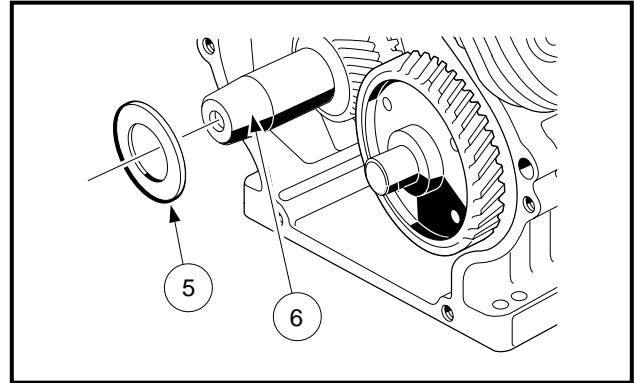

Figure 13-99 Install Shim On Crankshaft
5. Install the shim (5) on the crankshaft (6) (**Figure 13-99, Page 13-45**).